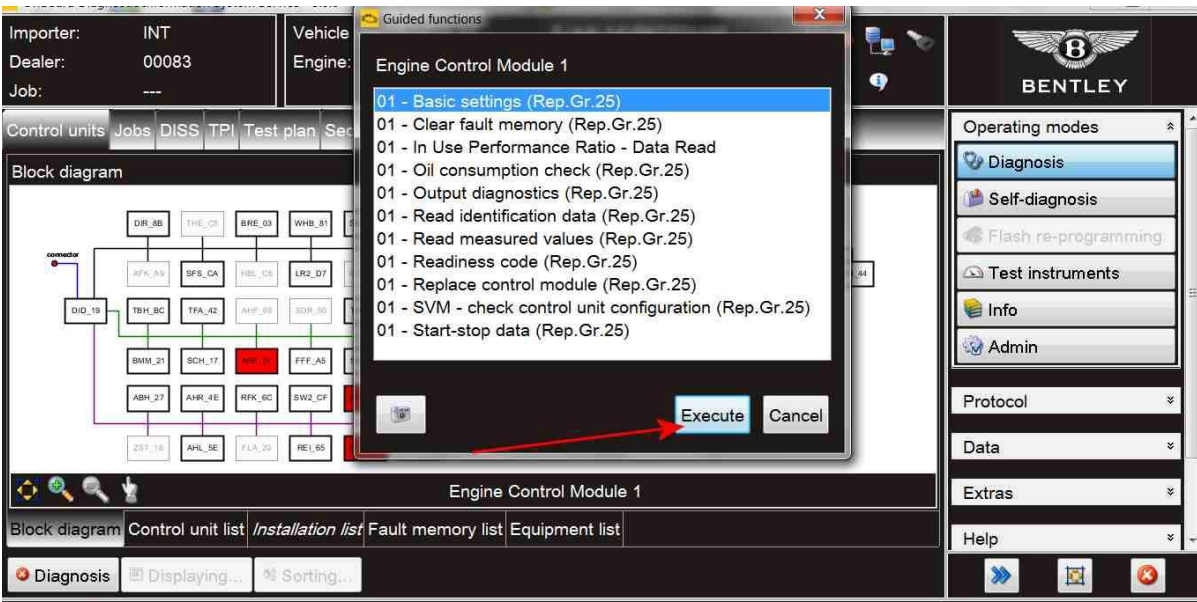

Figure 7
7) Referring to Figure 7 – Select Basic settings - Select Execute